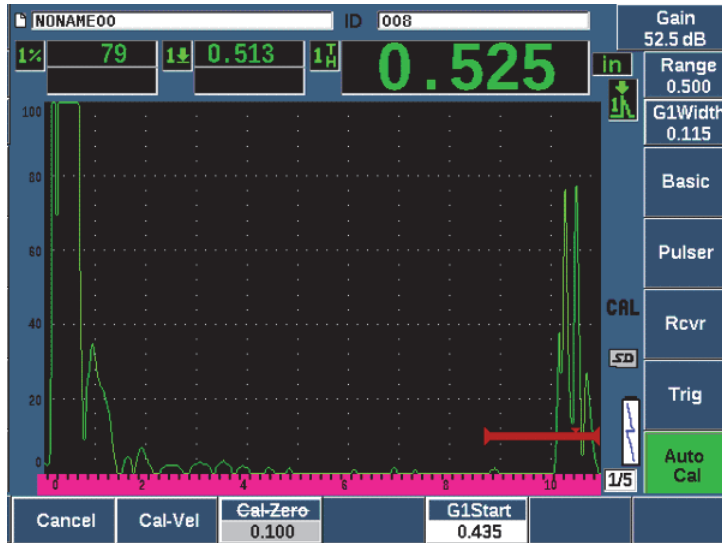

Figure 9-8 Example of a gated signal for velocity calibration
11. Adjust the value to match the known thickness of the gated indication (0.100 in. in this example), and then press **Continue** (P3 key) to continue to the second calibration step (see Figure 9-8 on page 167). The thickness value used in this part of the calibration will be stored for reference in the **Cal-Zero** parameter box.